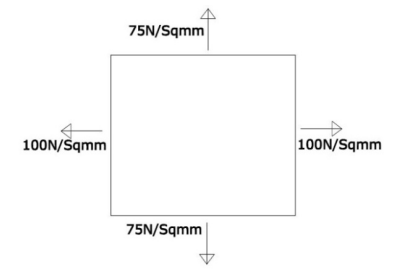

Fig. 2 2 + 3 + 7 = 12
- (c) The principal stresses at a point inside a loaded body shown in Fig.2 are 100 N/mm² and 75 N/mm². Find the normal, tangential and resultant stresses across a plane passing through 60° to the plane of 100 N/mm² stress.